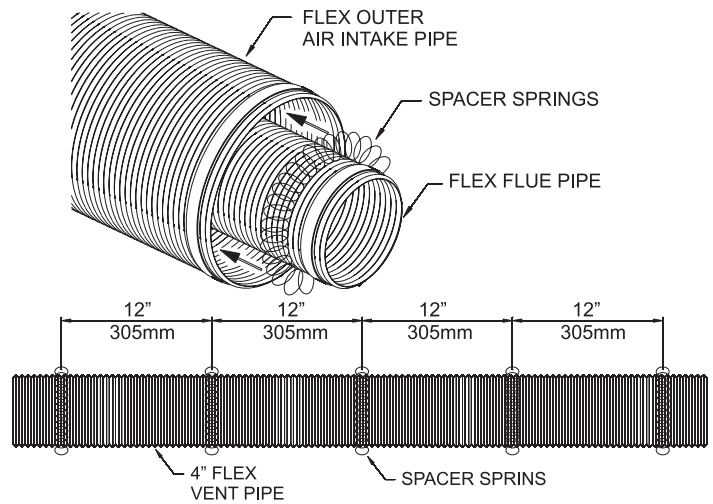

Figure 52
9. Install the spring spacers provided around the 4" diameter flex flue at 1 foot intervals, then slide the flue pipe with spacers into the 7" diameter outer flex vent pipe. Make sure the springs are spaced evenly starting at 12 inches from the fireplace collar. **See Figure 52.**